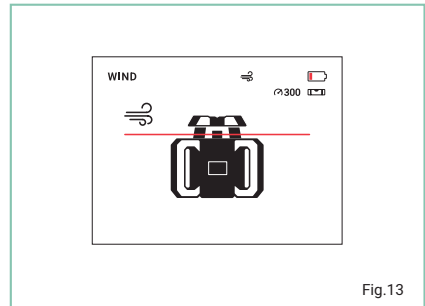

Fig.13
- Press the **wind control button** on the laser level to enter into wind mode. The LCD screen will display the word 'wind' when in wind mode (Fig.13). The following icon will be displayed on the LCD screen on the laser level and remote control: